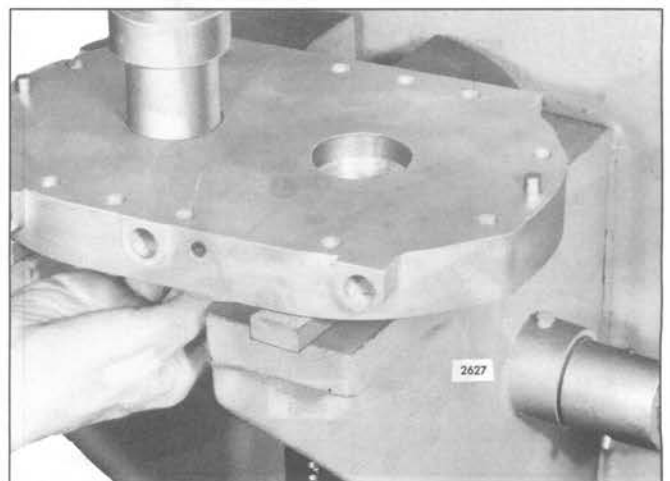

Fig. 9 – Removing Oil Seal (or Oil Seal Ring Collar) and Bearing from End Plate with Tool J 6270-3
- b. Place the long end of the oil seal remover and installer J 6270-3 down through the oil seal and into the bearing, with the opposite end of the remover under the ram of the press (Fig. 9). Then, press the bearing and oil seal out of the end plate. Discard the oil seal.
- h. Refer to Fig. 9 and support the outer face of the blower end plate on wood blocks on the bed of an arbor press.
- i. Place the long end of the oil seal remover and installer J 6270-3 down through the oil seal ring collar and into the bearing, with the opposite end of the remover under the ram of the press (Fig. 9). Then, press the bearing and oil seal ring collar out of the end plate.